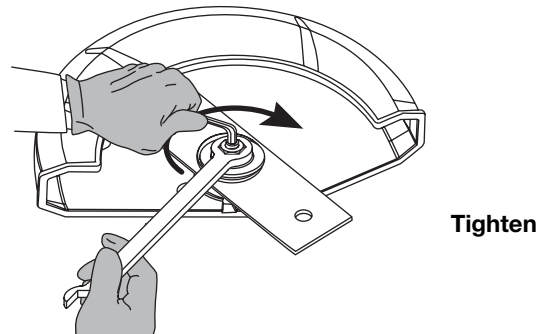

Fig. 17
- While holding the Allen wrench in the spindle hole, tighten the nut by turning the wrench clockwise until tight (Fig. 17).